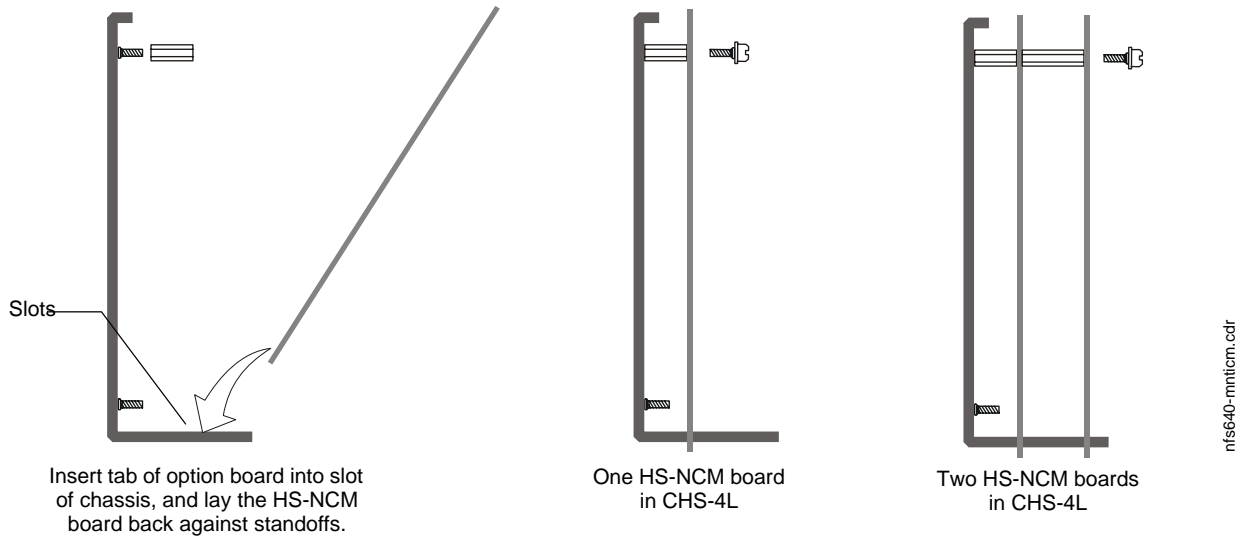

Figure 4 Mounting HS-NCM in a Chassis (CHS-4L Shown)
- CHS-4L/4N, CHS2-M3, CHS-M3, the NFS2-640 chassis or NFS-320 enclosure: Mount the HS-NCM in standard option module positions as described in your control panel installation manual. Figure 4 shows CHS-4L as an example.